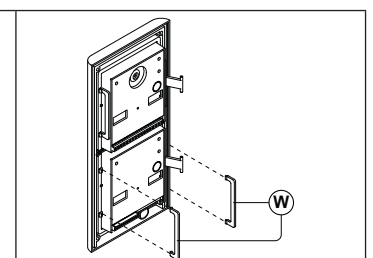

Fig. 12
Fit the anti-tampering locks (W) as shown in Fig. 12.